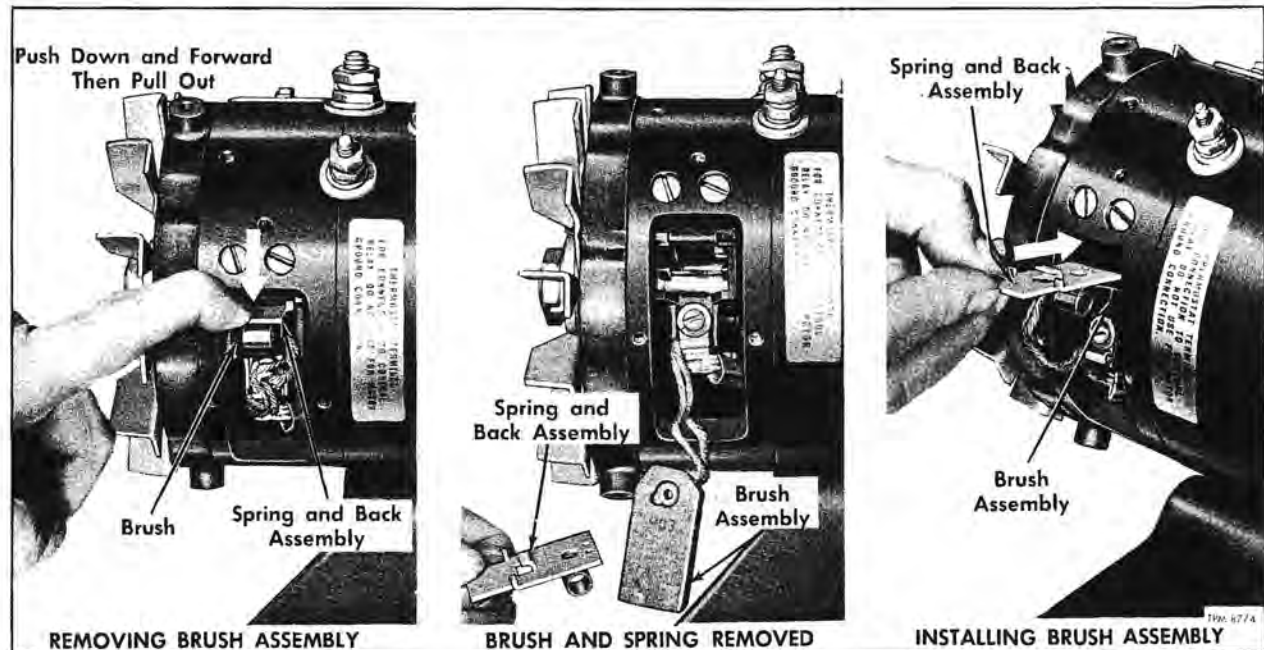

Figure 30—Replacing Standard Underfloor Blower Motor Brushes
3. To replace standard motor brushes, refer to figure 30, which shows operational brush replacement views.
a. To remove individual brush, push down on spring and back assembly, then forward toward brush to disengage back from retaining lugs. See left view of figure 30. Release back, and remove from motor. Do not attempt to remove brushes prior to removal of spring and back assembly as the spring may be damaged and improper brush tension will result.
b. Center view of figure 30 shows brush separated from spring and back. Remove screw which secures brush cable to bracket. Remove brush.
c. Install new brush in brush holder, insert back and spring assembly inward beyond installed position, then away from brush to engage internal retaining lugs as shown in right view of figure 30.